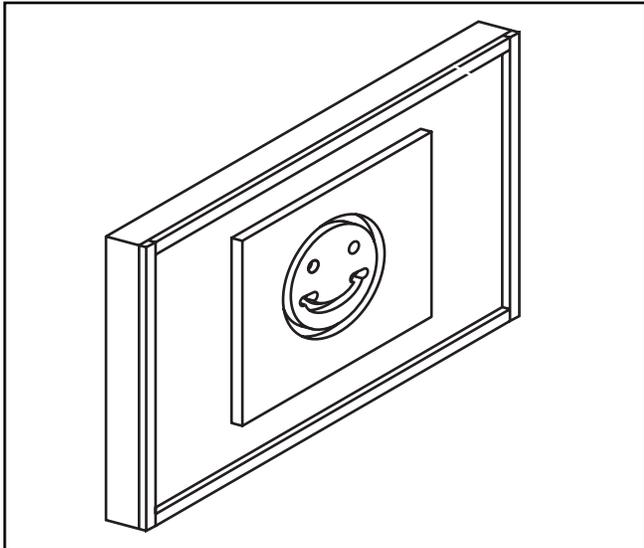

Figure 24. Bottom side of the pattern template.
5. Cut (4) ½" wide strips of the same birch plywood used for the pattern. Glue them on the four sides of the MDF, on the same side as the pattern. These will serve as runners to keep the whole assembly level when performing the routing operation as shown in **Figure 24**.